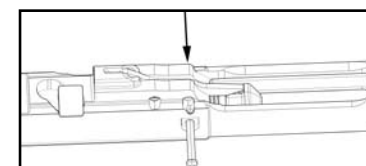

Fig. 25 – Remove the Firing Pin and Firing Pin Spring
- c. Insert the small tip of the disassembly tool into the right hand side of the firing pin retaining pin and drift the firing pin retaining pin from right to left until the firing pin retaining pin reaches its limit of lateral travel (Fig. 25).